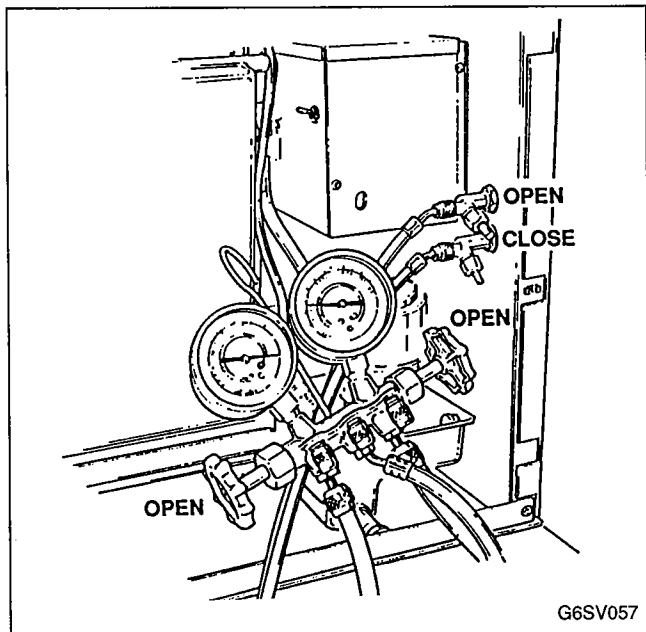

FIGURE 50. INSTALLING MANIFOLD GAUGES
1. Connect high side line to high side service valve at ice machine. See Figure 50.